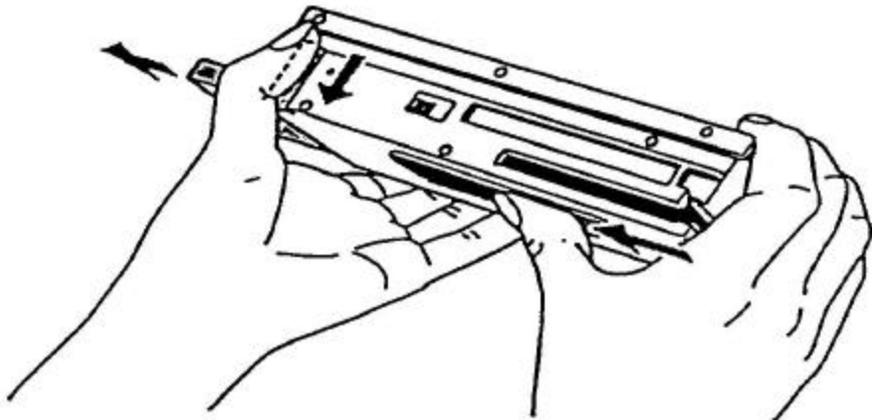

Figure 3-10. Pushing cartridges through the bottom of the magazine
2. Position your thumb in the slot in the bottom of the magazine and continue sliding the cartridges toward the front of the magazine, see Figure 3-10.